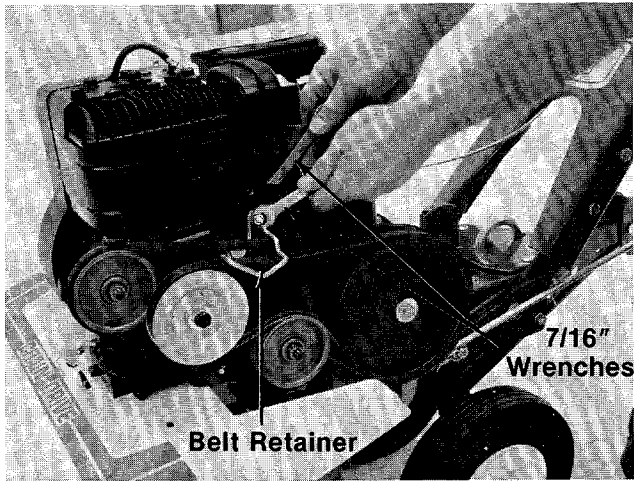

FIGURE 23.
3. Loosen (do not remove) the hex screw and nut holding the belt retainer, using two 7/16" wrenches. See figure 23.